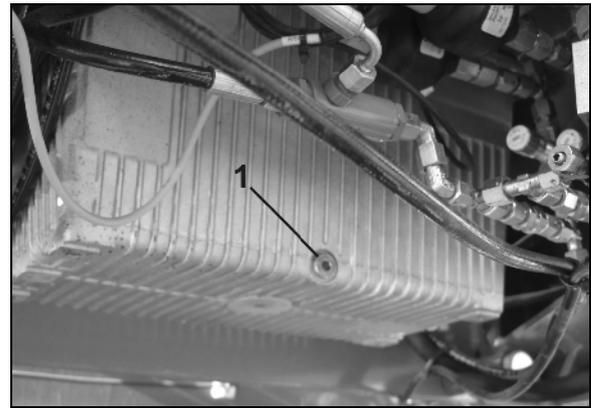

Fig. 138
1. Place a suitable container under the drain valve (Fig. 138/1) (capacity of at least 35 litres).